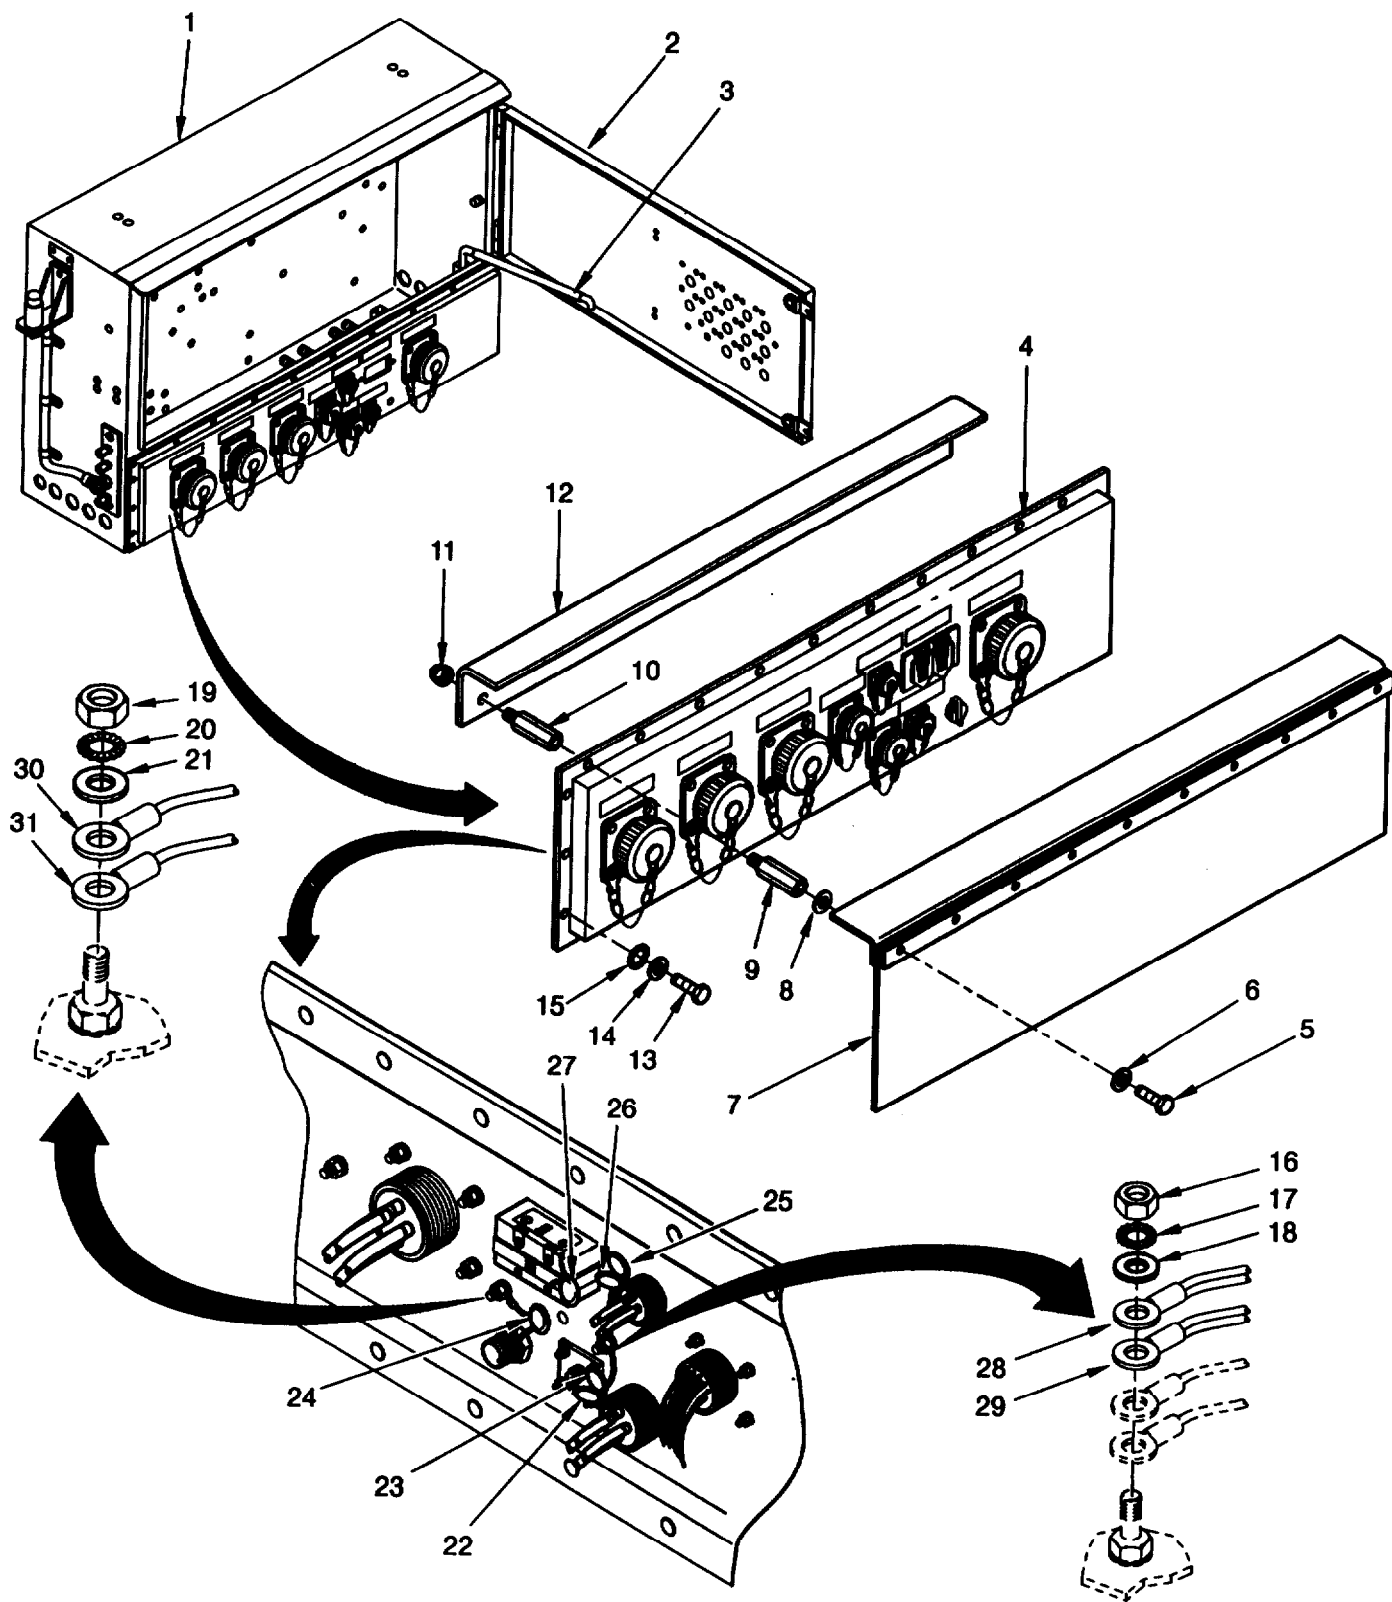
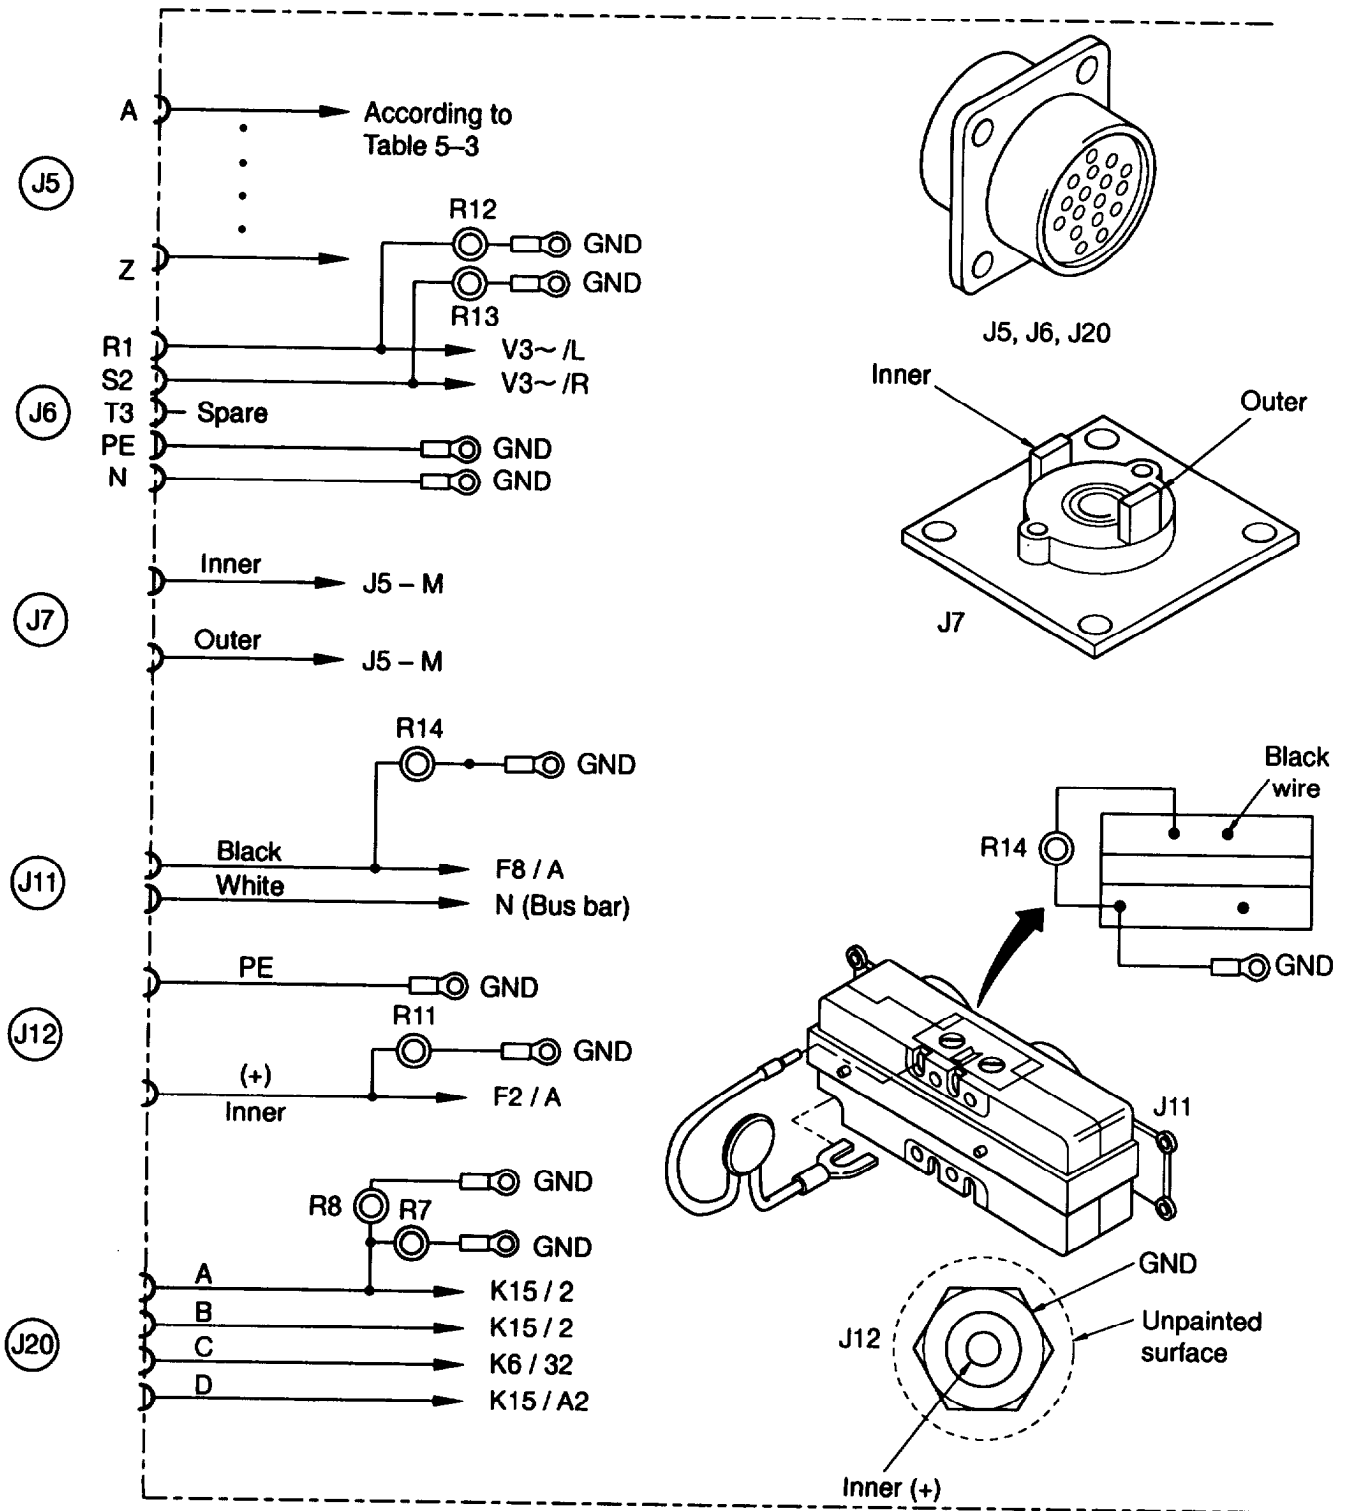

Figure 5-20 Connection Panel Receptacles and Varistors.
Figure 5-23 Connection Panel, Connection Diagram, Receptacles J5 to J7, J11, J12, J20.
- a. Record labeling and position of receptacle (37).
- b. Using removal tool 1 and 2 push pins with cables out of receptacle (37) from the back.
- c. Remove cable of resistor R12 (22, figure 5-20) from pin J6-R1 and cable of resistor R13 (23) from J6-S2 of receptacle (37, figure 5-21).
- d. Remove nut (41), serrated lock washer (40), washer (39), screws (34), washer (36) and receptacle (36,37) and gasket (38).
- e. Remove nut (16, figure 5-20), serrated lock washer (17), washer (18), and cable (28) of resistors R12 (22) and cable (28) of resistor R13 (23) from grounding stud.
- a. Record labeling and position of cables on receptacle (66) and remove cables.
- b. Remove one end of varistor R14 (27, figure 5-20) noting position (other end is 31).
- a. Loosen screw on receptacle (70) and remove cable of resistor R11 (24, figure 5-20) and remaining cable.
- b. Remove nut (19), serrated lock washer (20), washer (21), and cable of resistor R11(30) from grounding stud.
- b. Remove cable of resistor R7 (25, figure 5-20) and cable of resistor R8 (26) from pin J20-A of receptacle (45, figure 5-21).
- d. Remove screws (42), washers (43), nuts (49), serrated lock washers (48), washers (47) and remove receptacle (44,45) and gasket (46).
- e. Remove nut (16, figure 5-20), serrated lock washer (17), washer (18), and cable (29) of resistor R7 (25), and cable (29) of resistor R8 (26) from grounding stud.
- For resistors R7 (25, figure 5-20), R8 (26), R11 (24), R12 (22), R13 (23) and R14 (27) the test procedure is the same.
- a. Install receptacle (36,37) and gasket (38) on connection panel using nut (41), serrated lock washer (40), washer (39,35) and screw (34). Tighten screw (34).
- b. Install cables and the cable of resistor R12 (22, figure 5-20) in pin J6-R1 and the cable of resistor R13 (23) in pin J6-S2 of receptacle (37, figure 6-21) respectively Refer to figure 6-23.
- c. Install cable of resistor R12 (28, figure 5-20), and cable of resistor R13 (29) on grounding stud using washer (18), serrated lock washer (17) and nut (16). Tighten nut (16).
- b. Install receptacle contacts (61), ring (66) and secure with nut (55). Refer to figure 5-23.
- c. Solder cables to receptacle contacts (61).
- a. Install receptacle (60,66) using two screws (65), washers (67), serrated lock washers (68) and nuts (69). Tighten nuts (69).
- b. Install cover (63) with gasket (64) and screw (62).
- c. Install varistor R14 (27, figure 5-20) and cables. Refer to figure 5-23.
- b. Install cables and cable of resistor R11(24, figure 5-20) on receptacle.
- b. Install cables and cable of resistor R7 (25, figure 5-20) and cable of resistor R8 (26) to pin J20-A of receptacle (46, figure 5-21).
- c. Install cable (29) of resistor R7 (25, figure 5-20), and cable (29) of R8 (26) on grounding stud using washer (21), serrated lock washer (20) and nut (19). Refer to figure 5-23.
- a. Install protective cover (12, figure 5-20) with plastic cap nuts (11), into spacers (10).
- b. Install panel (4) using washers (15), serrated lock washers (14), and screws (13).
- c. Install four screws (S), eight serrated lock washers (6,8) and rubber flap (7) into four spacers (9) to panel (4).
- e. Stow prop (3), close access door (2) and secure.
- f. Install stanchion by PDU (1).